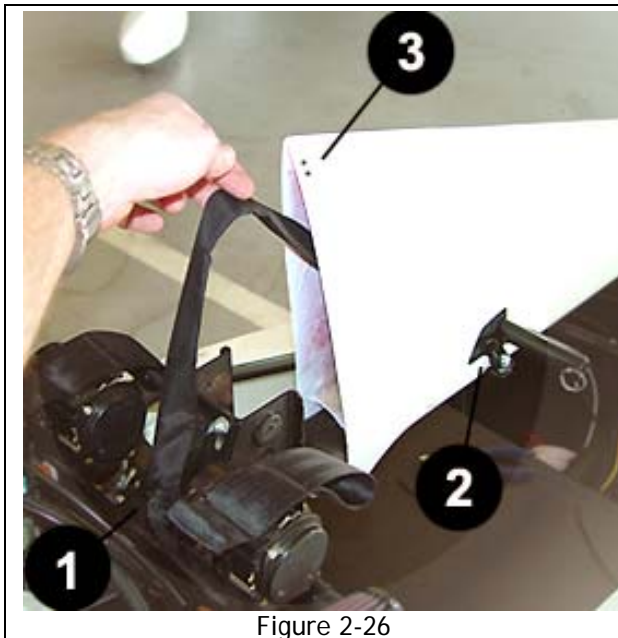

Figure 2-26
- 2.18 Attach the harness to the back side of the Fairing through two existing 1/8" diameter holes. This is attachment point **3**, shown in Figures 2-26 and 2-27.